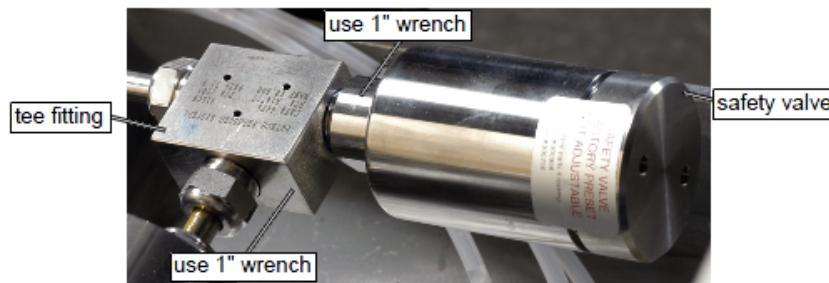

Figure 4-11
8. When screwed in as far as possible by hand, torque the body to the tee fitting using the 1" open end wrench on the tee fitting and the 1" crows foot and torque wrench on the Safety Valve (refer to Figure 4-11). Tighten to 50 - 75 foot pounds.